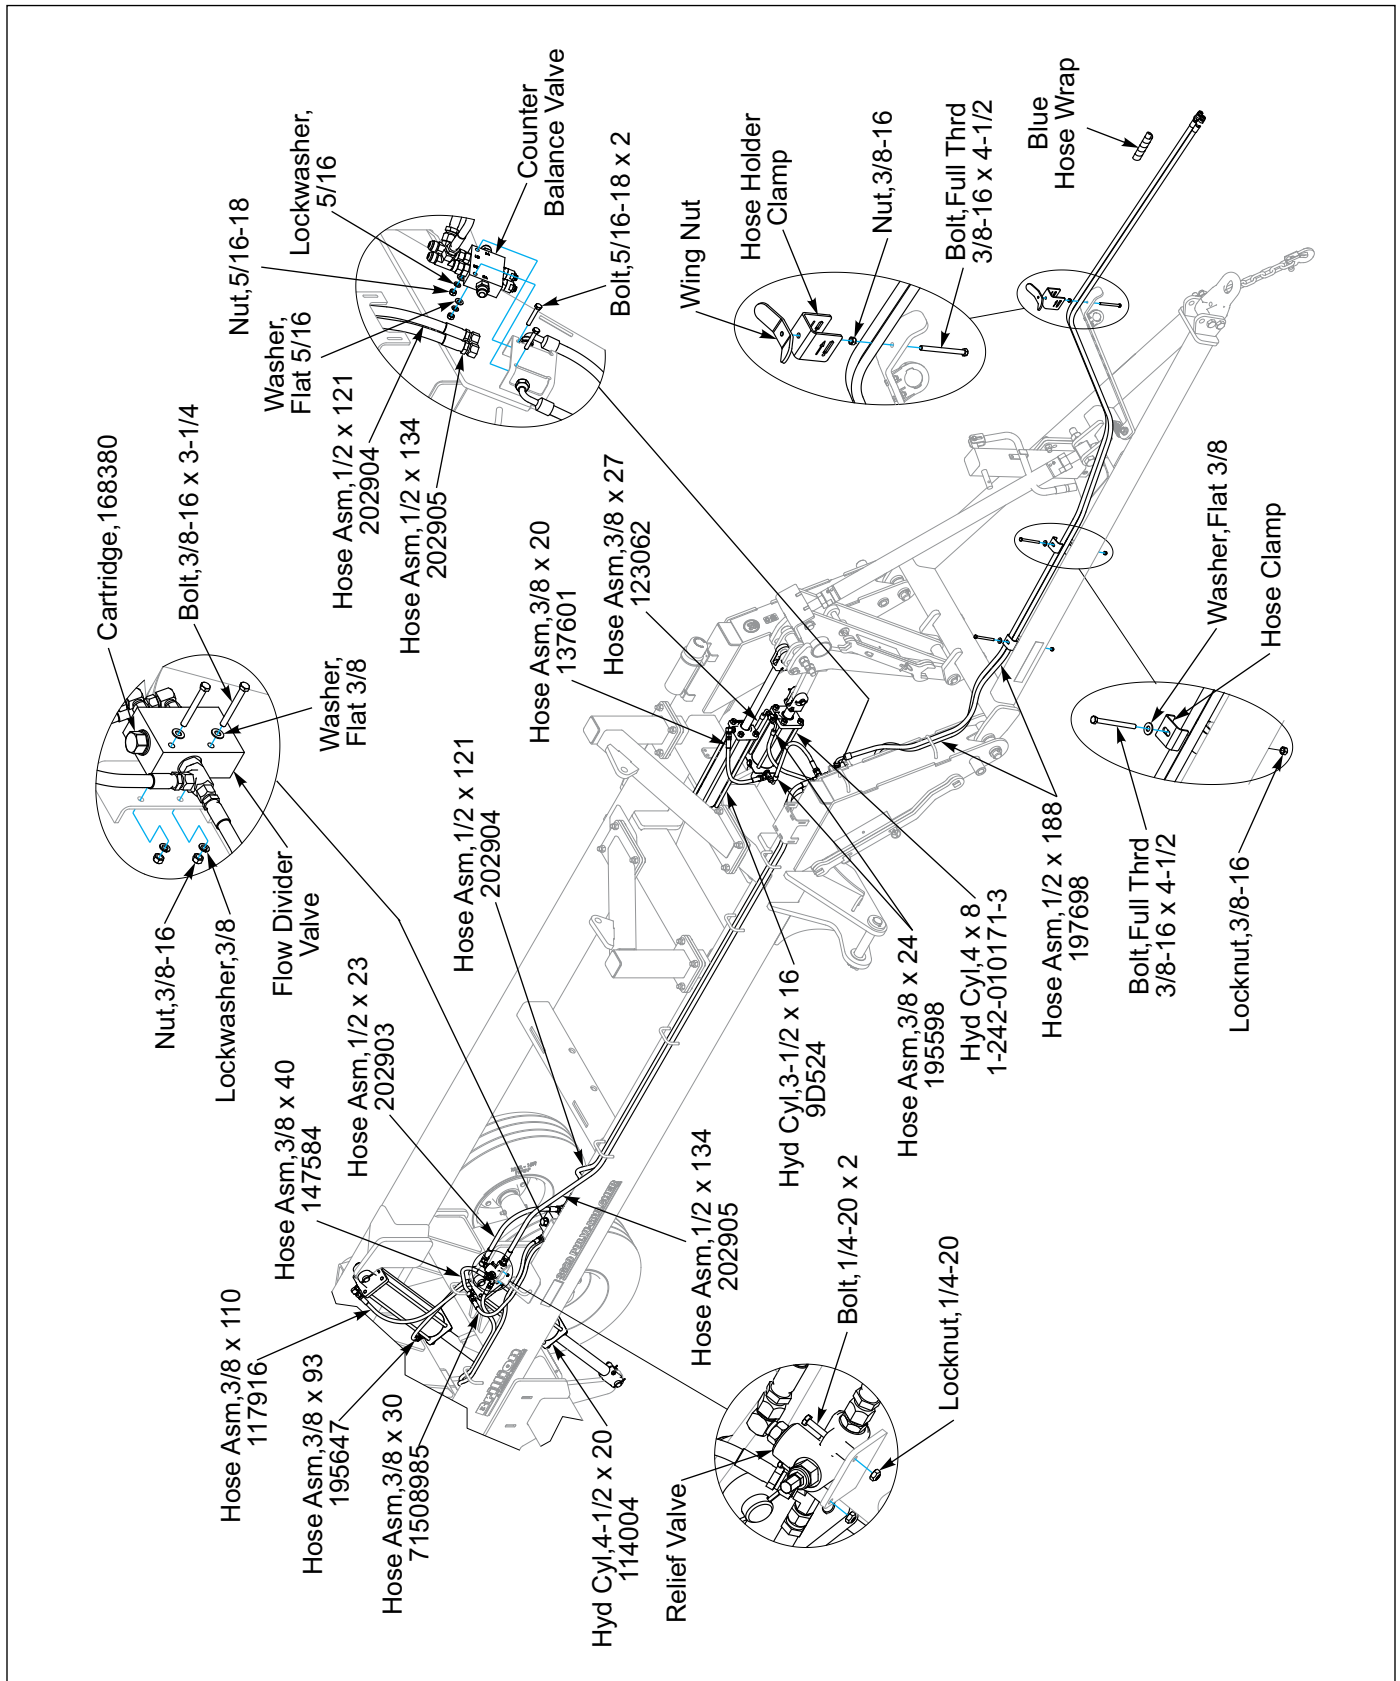

Figure 2-13: Hydraulic Lift Layout
Lift Circuit - Blue - See Figures 2-13, 2-14 and 2-15.
2. Attach Flow Divider Valve with 3/8-16 x 3-1/4 Bolt, Flat Washer, Lock Washer and Nut. Install Cartridge. See Figure 2-13.
3. Attach Relief Valve with 1/4-20 x 2 Bolt and Locknut. See Figure 2-13.
1. Install the Lift Circuit hoses. See Figures 2-13, 2-14 and 2-15. Wrap the Lift Circuit System hoses near the Tractor Tips with blue hose wrap.